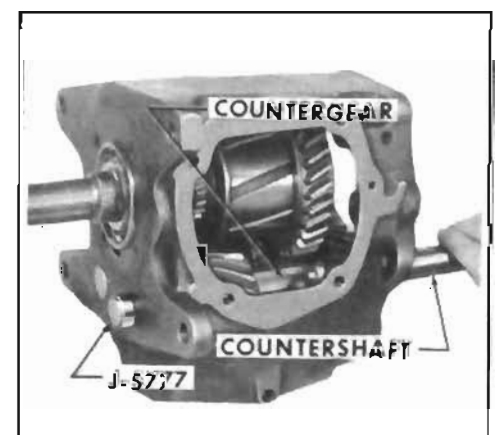

Figure 4-15—Removing Countershaft
7. Using Tool J-5777, remove the countershaft. Leaving the tool in place, lower the countergear to the bottom of the case. See Figure 4-15.